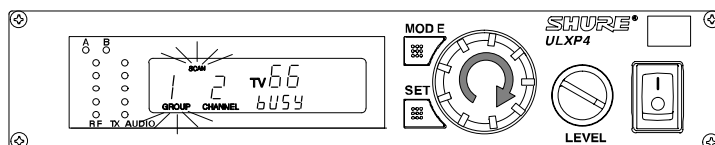

FIGURE 38
2. To begin scanning, rotate the control knob one quarter turn clockwise, as shown in Figure 38. The receiver will automatically begin scanning each Channel in all Groups. This may take up to two minutes, and the word "BUSY" will appear on the display.